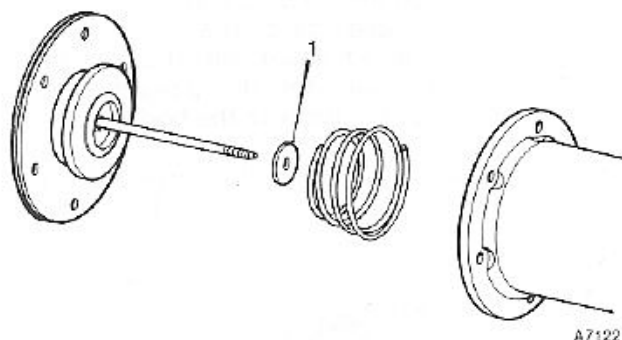

Fig 5. Fitting the diaphragm to the coil housing. Note the impact washer (1).
- 6 Place the armature spring into the coil housing with its large diameter towards the coil (see Fig. 5).